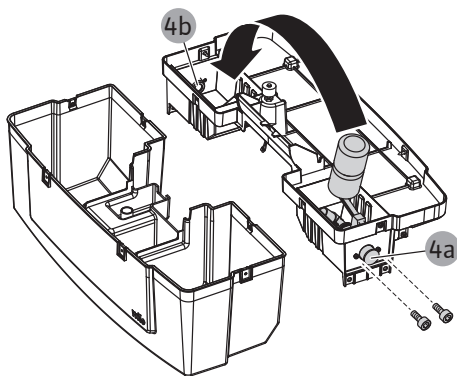

Fig. 17: Remove the replenishment reservoir cover and loosen the screws for fixing the replenishment valve
6. Remove the screws on the replenishment valve holder (Fig. 17).